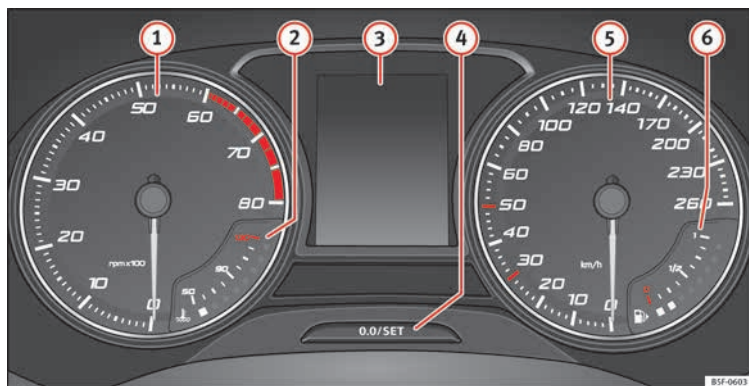

Fig. 121 Instrument panel, on dash panel
The rev counter indicates the number of engine revolutions per minute » **Fig. 121 ①**.
Never allow the rev counter needle ① » **Fig. 121** to go into the red zone on the scale for more than a very brief period, otherwise there is a risk of engine damage.
A variety of information can be viewed on the instrument panel display » **Fig. 121 ③** depending on the vehicle equipment:
- Briefly press the button » **Fig. 121 ④** to reset the trip recorder to 0.
- Keep the button ④ pressed for about 3 seconds and the previous value will be displayed.
- To set the time, keep the button **» Fig. 121 4** pressed for more than 3 seconds to select the hour or minute display.
Hold the button **» Fig. 121 4** down for more than 15 seconds to display the identifying letters of the vehicle engine (MKB). To do this, the ignition must be switched on and the engine switched off.
The coolant temperature gauge **2** » **Fig. 121** only works when the ignition is switched on. In order to avoid engine damage, please read the following notes for the different temperature ranges.